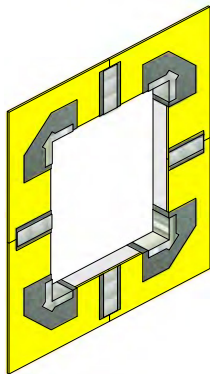

Figure 20
1. Apply MasterSeal AWB 975 FIBs as described in steps 1-5 from previous section. Allow the MasterSeal AWB saturated MasterSeal AWB 975 FIBs and sheathing joints to dry. (See Figure 20).